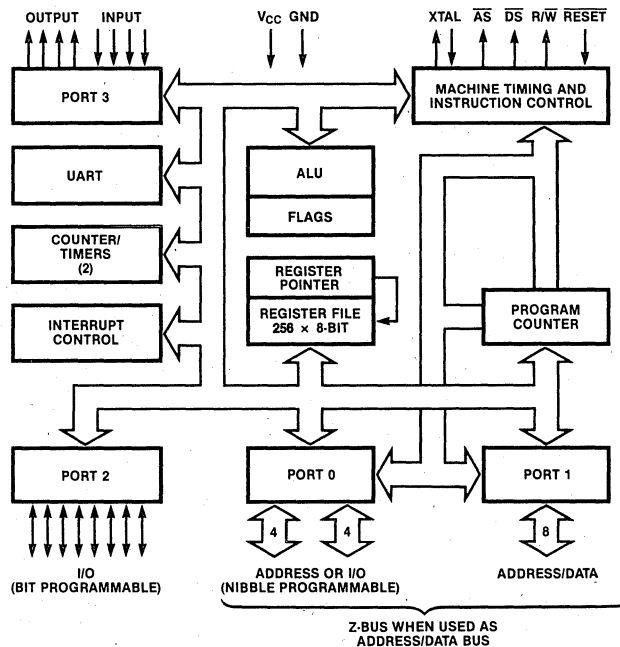

Figure 3. Functional Block Diagram
To unburden the program from coping with real-time problems such as serial data communication and counting/timing, an asynchronous receiver/transmitter (UART) and two counter/timers with a large number of user-selectable modes are offered on-chip. Hardware support for the UART is minimized because one of the on-chip timers supplies the bit rate. Figure 3 shows the block diagram.
**P00-P07, P20-P27, P30-P37.** *I/O Port Lines* (input/outputs, TTL-compatible). These 24 lines are divided into three 8-bit I/O ports that can be configured under program control for I/O or external memory interface (Figure 3).